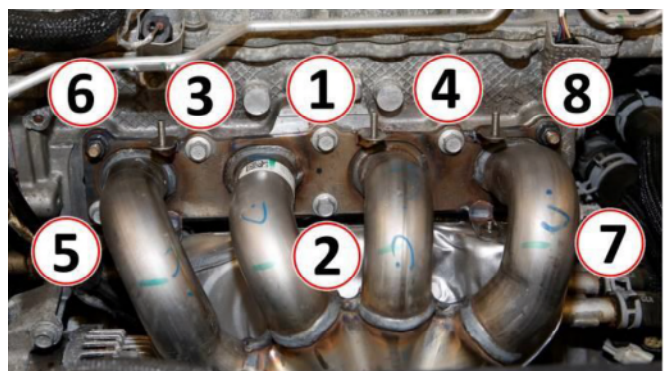

Figure 23 – Torque Sequence
34. Install the **NEW** maniverter bolts and nuts. Following the torque sequence, tighten the maniverter fasteners to 34 N·m (25 ft. lbs.) (Figure 23).